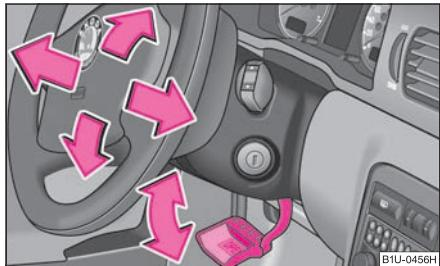

Fig. 98 Adjustable steering wheel: Lever below steering column
- Pull the lever below the steering wheel down ⇒ fig. 98, ⇒ △.